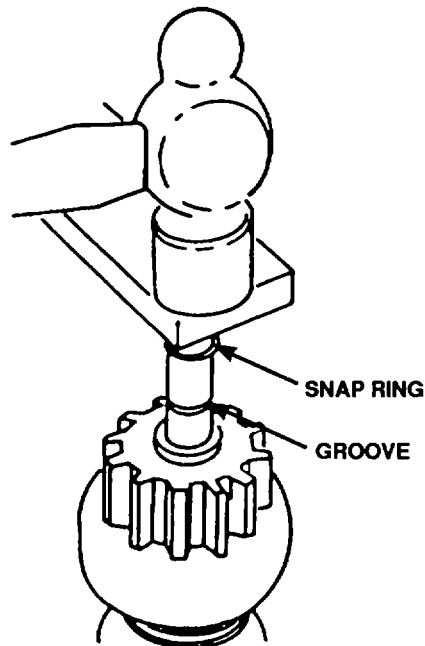

Figure 4-61. Starter Drive Snap Ring Installation
29. Place snap ring on end of shaft. With piece of wood on top of it, force snap ring over shaft with a light hammer blow. Then slide snap ring down into groove (figure 4-61).